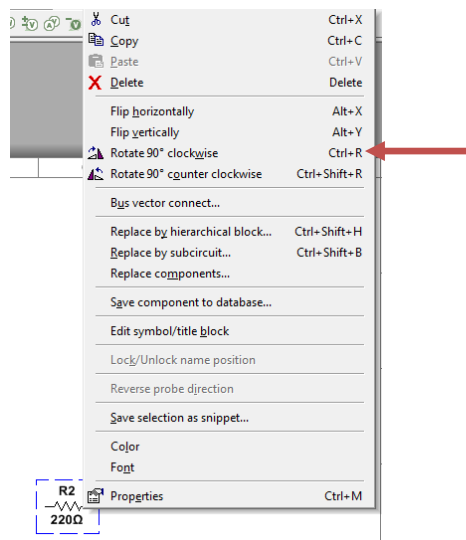

Figure 4.8 – Properties of a 220 Ω resistor
- Note that resistors by default are position horizontally. If the resistor needs to be rotated or flipped, right click on the resistor to open the resistor's properties. In the properties, select *Rotate 90° clockwise*. Another alternative to rotate is by using combination keys *Ctrl + R*. Check Figure 4.8